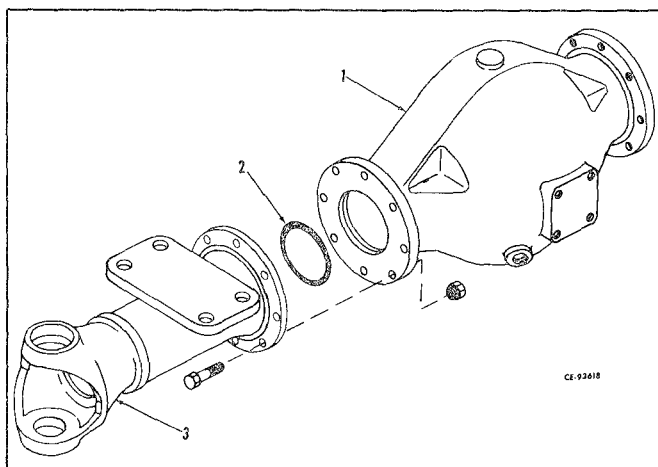

Figure 7-3
If a section of axle housing requires removal, index the two pieces to be separated with a chisel or two punch marks (1, 3, Fig. 7-3) to insure correct assembly.
Remove cap screws and hex nuts that secure axle housing (3, Fig. 7-3) and axle bowl (1). Separate housings and discard "O" ring seal (2).
Install a new "O" ring (2, Fig. 7-3) in position on axle housing boss. Align identification marks on the two housings (1, 3) and secure with cap screws and hex nuts.